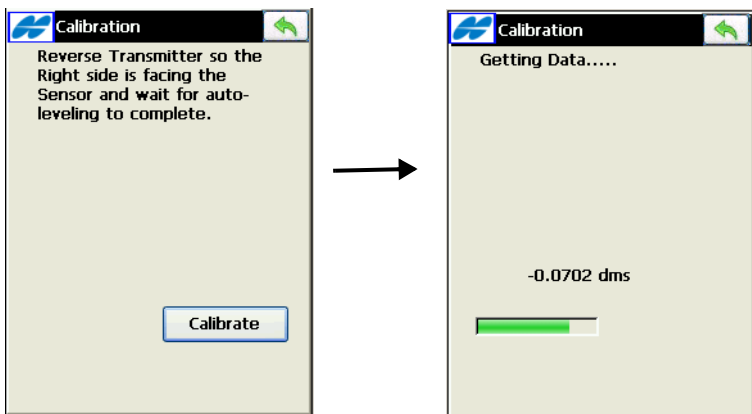

Figure A-18. Turn Transmitter to Right and Collect Data
10. Turn the transmitter 180° so the right side faces the transmitter. Tap **Calibrate** (Figure A-18 on page A-11).